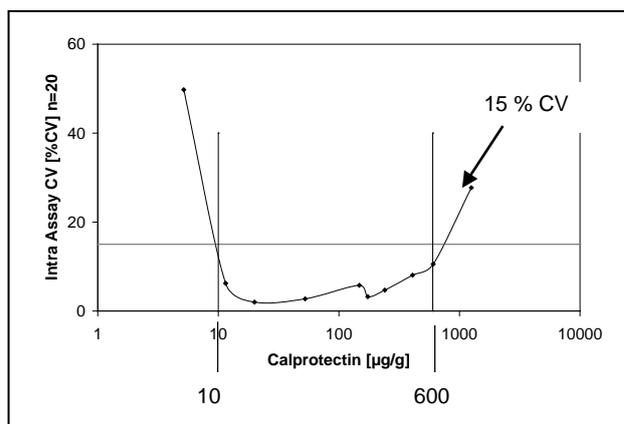

Figure 2
**Functional sensitivity: <10 µg/g.** Ten stool samples with values between 5.2 and 1254 µg/g calprotectin were assayed 20 times in duplicates in one assay. The % CV and the mean values were calculated for each sample. The functional sensitivity was observed at 15 % CV. The resulting precision profile (Figure 2) confirms that precise measurements can be performed within the whole standard range from 10 to 600 µg/g. The results are presented in Figure 2.